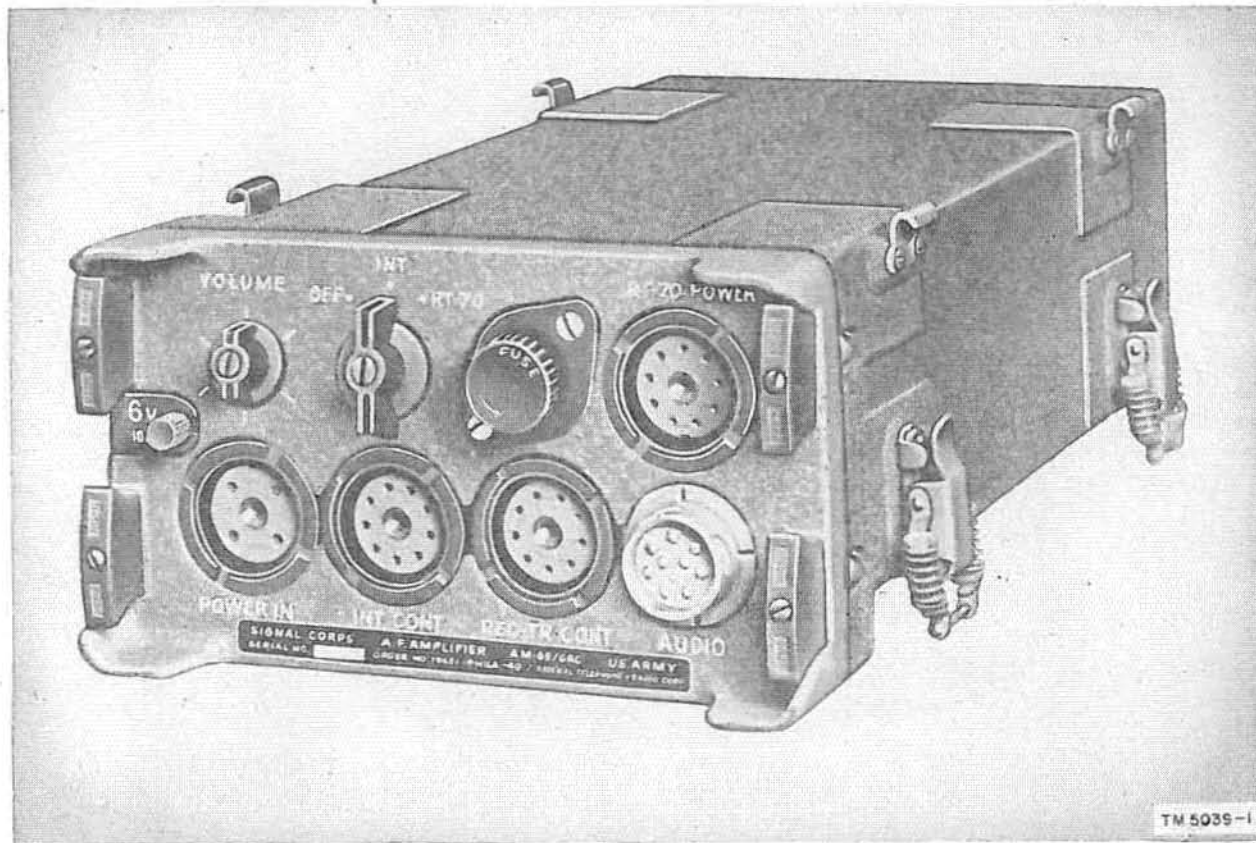

Figure 7. AF Amplifier AM-65/GRC.
a. AF Amplifier AM-65/GRC (fig. 7) is a common component of all the radio sets described in this manual. Generally referred to as the interphone amplifier, this unit serves a dual